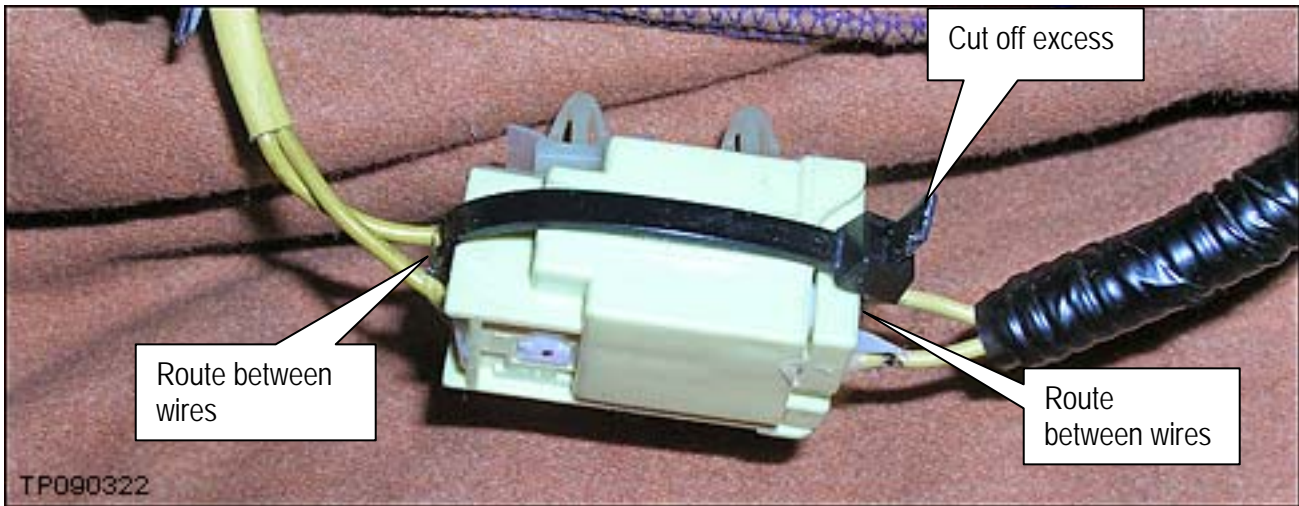

Figure 21
25. Install tie-wrap (P/N 24216 – W1000) around the connector as shown in Figure 21.